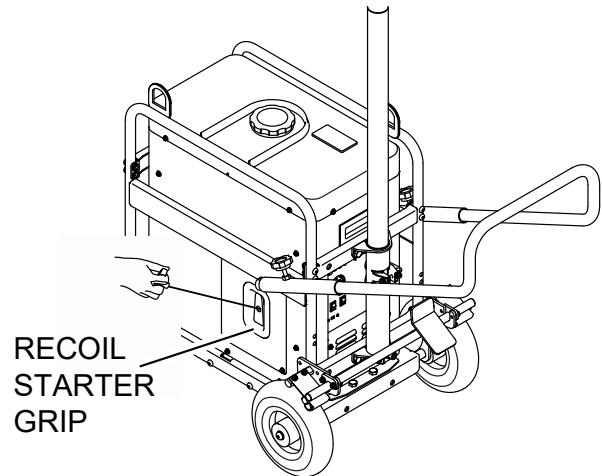

Figure 19. Recoil Starter
5. Pull the recoil starter grip until resistance is felt, then pull briskly and smoothly.(Figure 19).